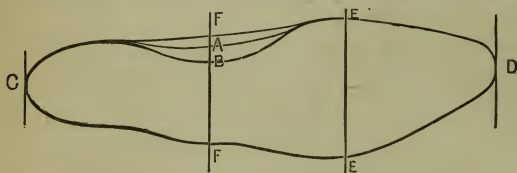
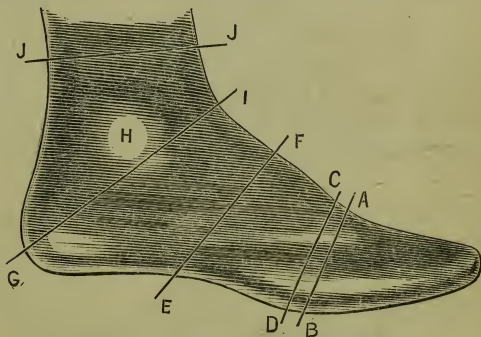
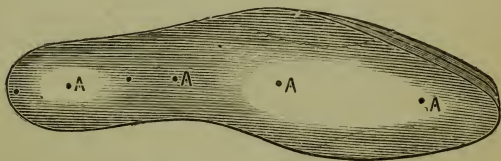

Fig. 64.—Shape of Foot Drawn on Paper
Fig. 66.—Measuring a Stockinged Foot.
Fig. 69.—Bottom of Last.
IN making a pair of boots or shoes, the lasts are the first requirements; and these cannot be done without. To know the size wanted, it is necessary to take the measurement of each foot. To do this, place a sheet of paper on the floor or any smooth surface, then let the person stand full weight upon it, and draw on the paper an outline of the foot, being careful to hold the pencil quite upright, especially at the toe, D, and heel, C (Fig. 64). Then,
Fig. 65 represents a shoemaker's penny tape measure; on one side it has inches, and on the other sizes which are three to an inch. With this tape take the length of the draft from C to D (Fig. 64), and, supposing it to measure size 5 (A 5's last measures just 10 in), you will
the whole joint, and be drawn only just tight ; it must pass under the foot at E E (Fig. 64), and over the great toe joint and knuckle of the little toe, A B (Fig. 66). This measurement is then marked on the draft, and so with each until all are taken. Take the second joint, c D (Fig. 66), passing round the larger parts of the ball of the foot. Next the instep, E F (Fig. 66), letting the tape pass under the hollow of the inside waist, E, across the bone marked F in Fig. 64, and the instep bone, F. The heel measure is taken, passing round (G) the extremity of heel, under the ankle bone (H), and across the throat of
trouble the superfluous material can soon be removed with a good rasp. In doing this, the bottom of the lasts should be shaped as in Fig. 69. This method will save the trouble and expense of having a pair made by the last maker, and a really good shape can be got to match the shape of your foot by yourself as well as by anyone else ; you then take the credit of making the boot and also of fitting the last, and this will give you confidence to fit a pair to any other person's foot.
In Fig. 69 will be seen three shapes for toes ; but the shape of the toe should make no difference in the construction of the last. No matter what the shape of the last is to be, space must be given for the great toe, or a bunion will be the result. It will be seen by comparison
with Fig. 64 that the bottom of the last (Fig. 69) is designed to suit the requirements of the foot as it is drawn on the sheet of paper (Fig. 64).
The insoles require to dry whilst fixed on the last. They must be marked with the sewing-awl to the shape of the last, then cut out, and while still wet the grain side is buffed or scraped, and the insole tacked grain side down on the bottom of the last with four tacks in the middle, as A, A, A, and A, shown in Fig. 69, p. 65. The